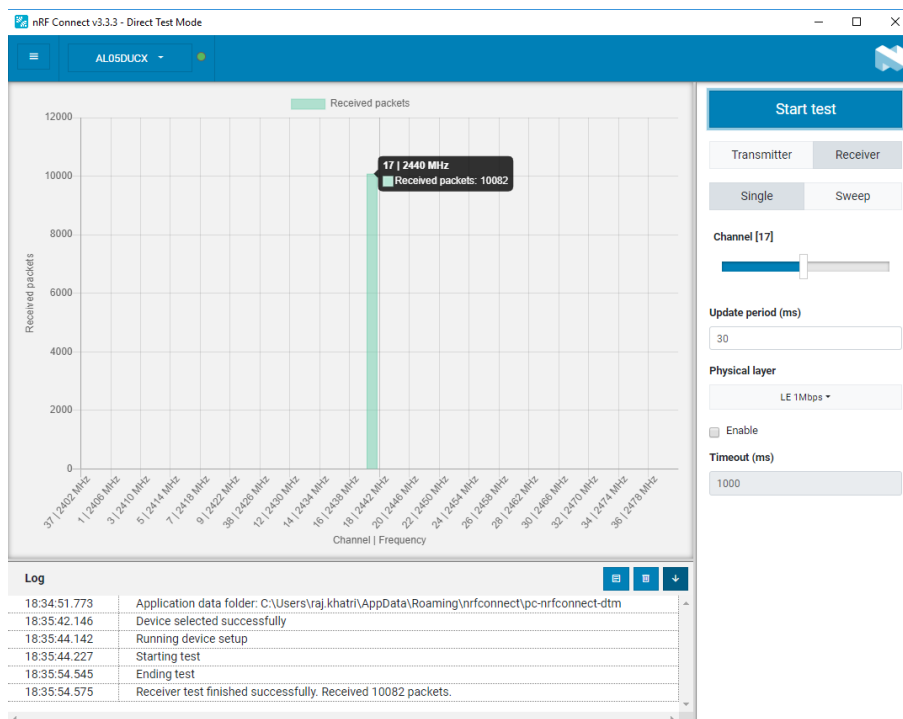

Figure 10: Successful initiation of BLE receiver test (received packets)
2. Once configured, to start Receiver test, click **Start test**. Figure 10 shows a BLE receiver test running.